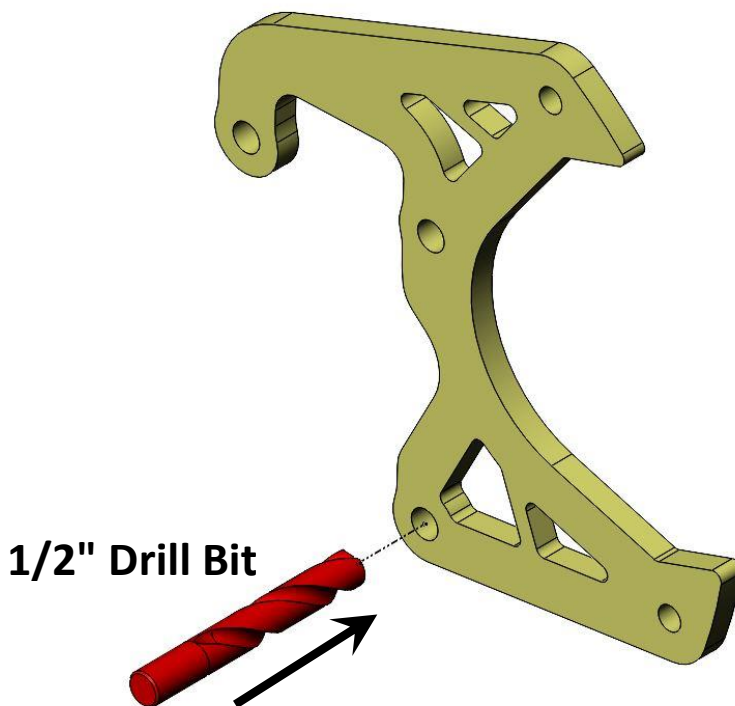

Figure 2 – Drilling Location
5. These Caliper Mounting Brackets fit a wide range of years (28-59), the 55-59 applications use larger 1/2" steer arm attachment bolts. Because of this use a 1/2" drill bit to open up the lower most Caliper Mounting Bracket bolt hole. Refer to Figure 2 below for drilling location.